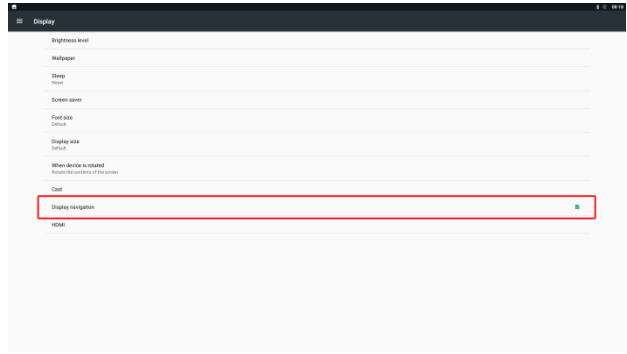

Fig. 4
4. The display interface of the hidden menu bar is shown in Figure 4.